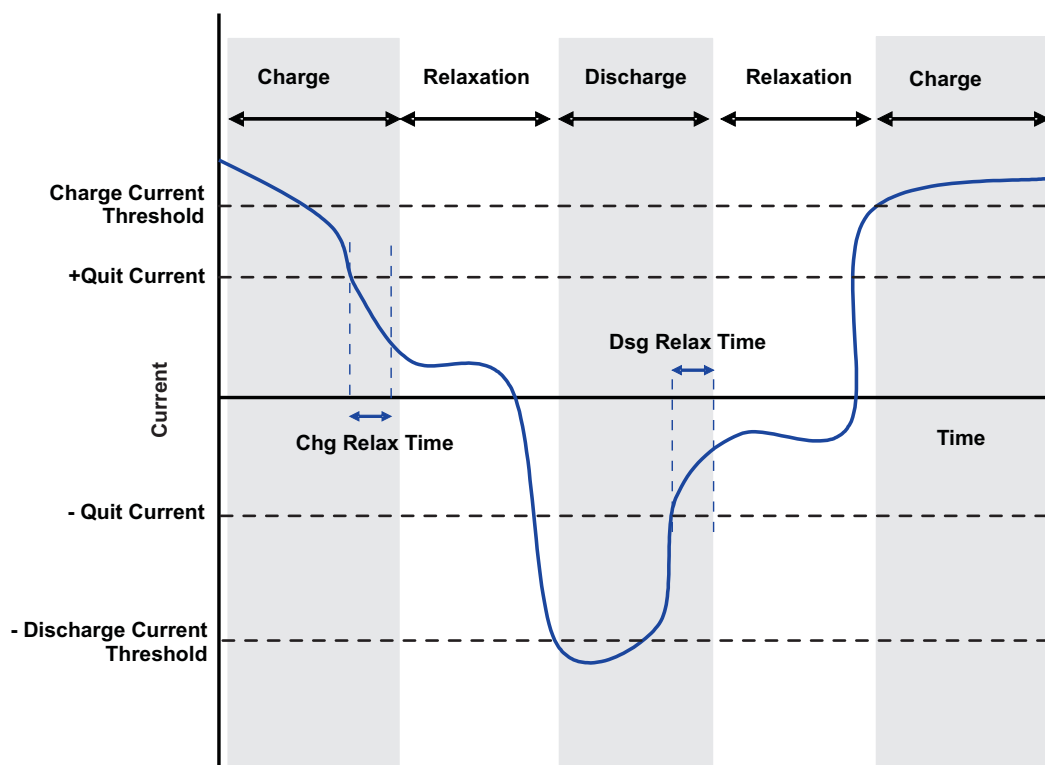

Figure 2. Algorithm Operation Mode Changes With Varying Battery Current
Figure 2 illustrates charge, discharge, and relaxation modes of the battery.
- Relaxation mode: the state of the battery when the current is below user-defined *quit current* levels and after a user-defined minimum charge relax time (see Figure 2)